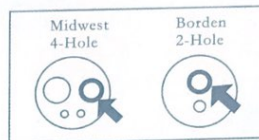

Fig.7
- 3) Insert the tip nozzle into the drive air port of the handpiece. Hold the handpiece and spray for approximately 2-3 seconds. Apply lubricant until it expels from the handpiece head. (Fig.7)